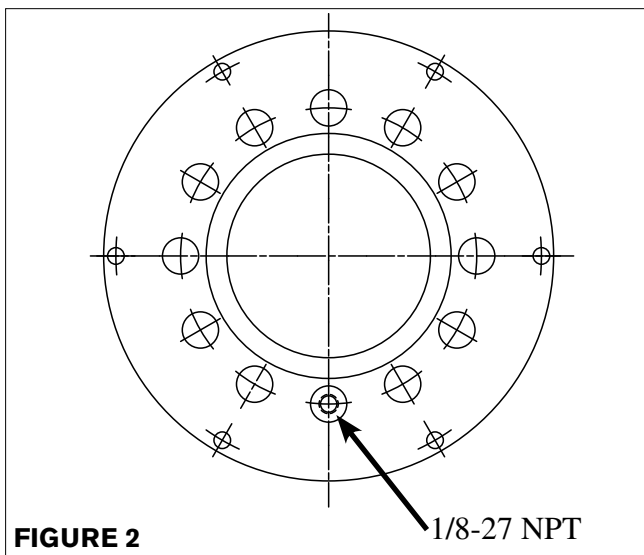

FIGURE 2
9. Using an R (.339 inch Ø) size drill bit, drill one hole in the center of one spring pocket as shown in figure 2.